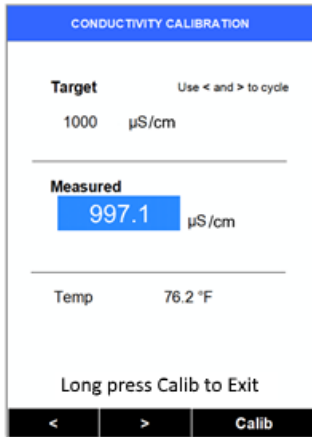

Figure 20
4. Use the > key to cycle to the desired calibration, for example, 1000 µS (Figure 20). The Standard Conductivity selections are 500, 1000, 2500, and 5000 µS.